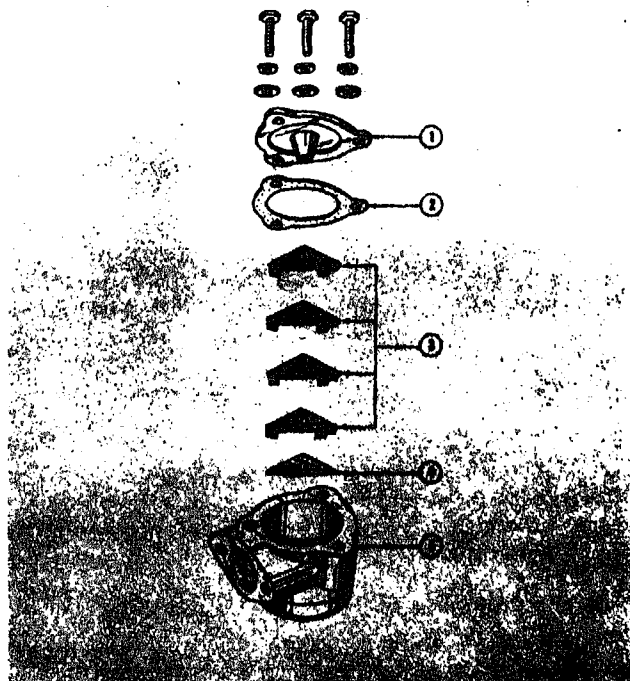

Fig. 3-3-2. Crankcase breather—screen-type element
The screen element type breather Fig. 3-3-2 is used on supercharged engines.
Remove capscrews, washer, cover (1, Fig. 3-3-2), screen (3), and baffle (4) from the breather body (5).